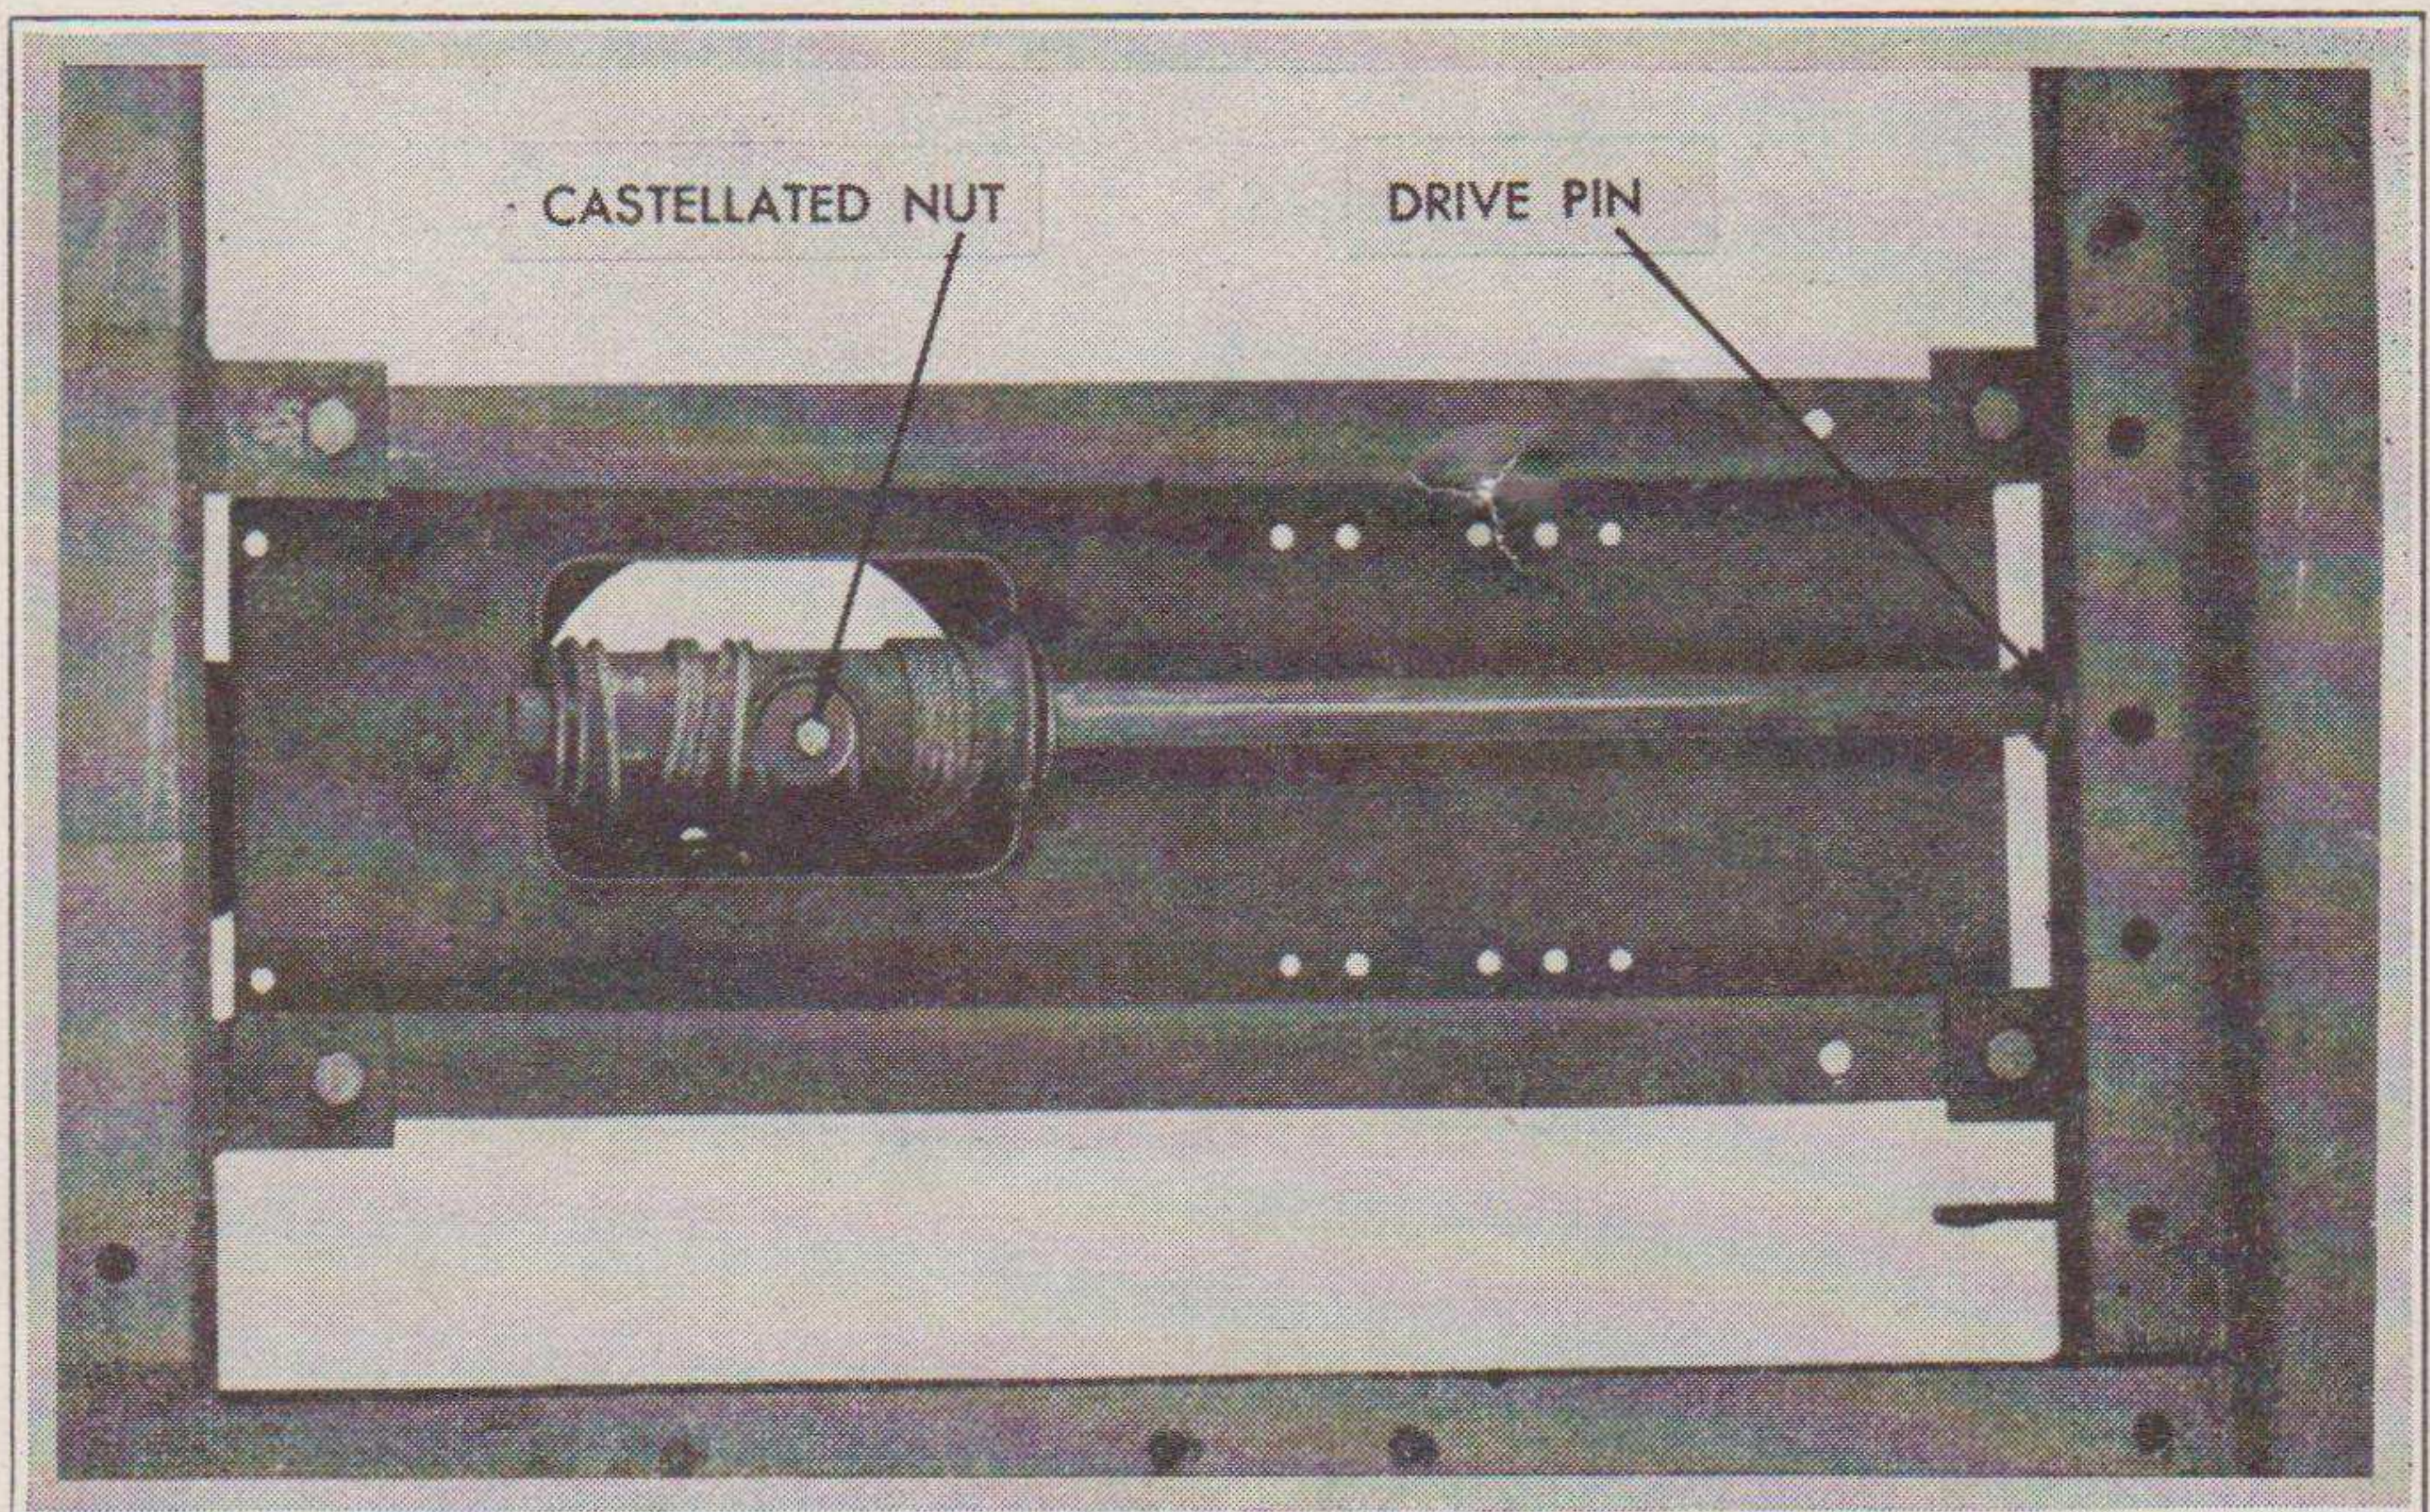

FIGURE 37. TIRE CARRIER
(1) Make sure all countersunk holes in wheels are clean, free from dirt or "piled up" paint.
(2) Draw up the sleeve shaped nuts which hold the inner wheel in place. Apply pressure evenly on all nuts by progressively tightening opposite nuts until all are down very tight.
(3) Slide on the outer wheel and draw up the outer stud nuts in the same manner as outlined above.
6. REPLACING TIRE CARRIER (Refer to Figure 37).—a. Procedure.—(1) Remove the ratchet nut which extends through the side rail by using a punch and hammer and driving out the pin which couples the ratchet to the operating shaft.
c. To replace the cable, reverse the above procedure. (Refer to Figure 37.)